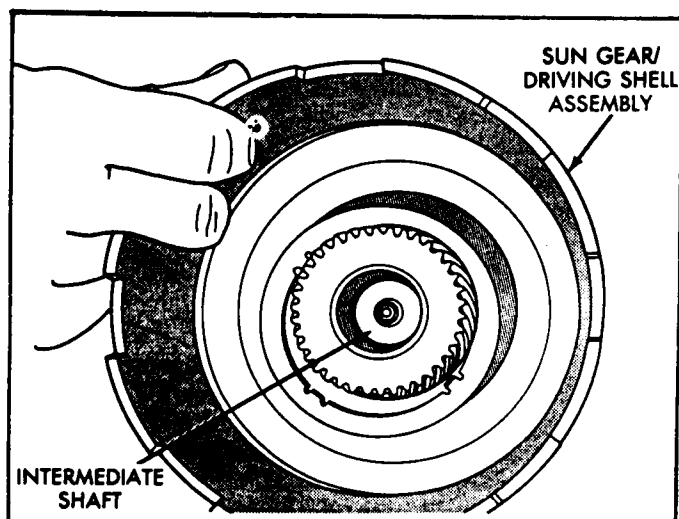

Figure 81
14. Install the assembled sun gear/driving shell onto the intermediate shaft, as shown in Figure 81, engaging it in the rear planetary gears.